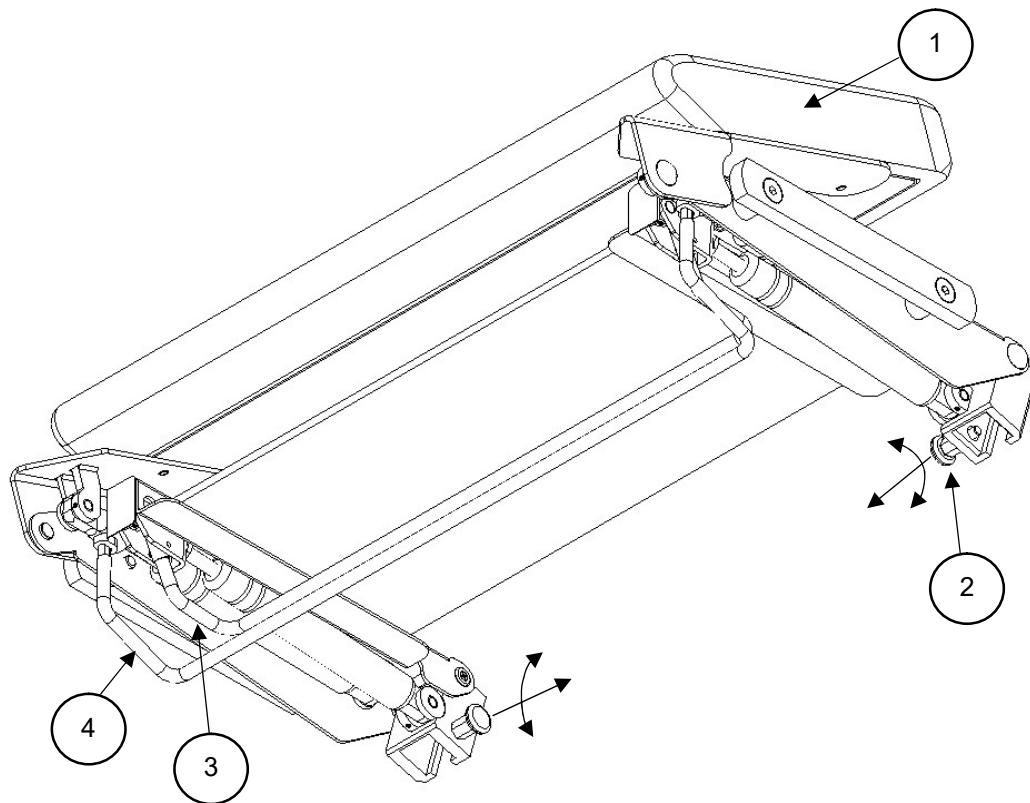

Fig. 17
The headrest (fig. 17) is installed on the headrest mounting wedges found at the end of the backrest with two locking mechanisms on the internal sides of headrest (fig. 17, pos. 2). Before mounting the headrest on the backrest, take out both headrest locking mechanisms and rotate them to an angle of approximately 90°. After having done so, place the headrest wedge socket on the backrest wedge spigot, set their position by turning the locking mechanisms until they lock themselves back in their starting position. To disassemble the headrest, take out both headrest locking mechanisms and rotate them to an angle of approximately 90° and take the headrest off the backrest wedge spigots. To change the angular position of the headrest in relation to the backrest, push the lever (fig. 17, pos. 3) triggering the gas spring mechanism. Releasing the lever locks the headrest in the set position. To change the angular position of the section II – the mattress (fig. 17, pos. 1) – in relation to the headrest set on the backrest wedges, pull the lever (fig. 17, pos. 4) triggering the gas spring mechanism. Adjusting the angular position of the section II should be supported by hand, especially when a patient's head is rested on it. Use caution when controlling the strength of the springs. The most ergonomic position is achieved when the mattress section (fig. 1.1, pos. 1) is set at an angle between 0° and 45°.